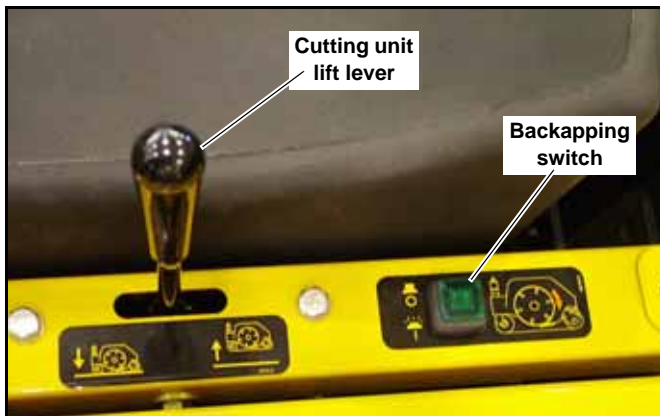

Figure 3-9
- F. Lift control lever (Figure 3-9) —** This lever is used to lift or lower the cutting units. Pulling back on the lever raises the cutting units. Pushing forward on the lever lowers the cutting units
- H. Backlapping switch (Figure 3-9) —** This switch is used to run the reels in the backlapping direction for reel and bedknife maintenance. The reels should be lowered to